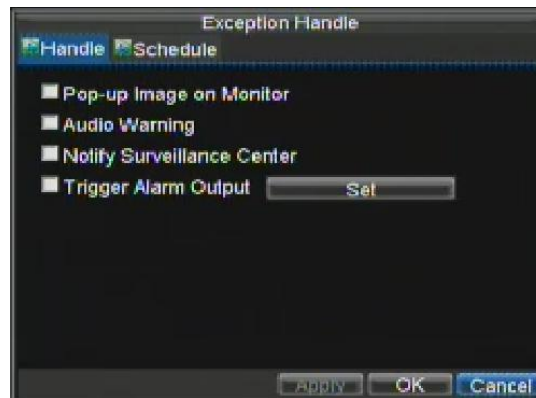

Figure 12. Exception Handle Menu
5. Click the Handle button to enter the Exception Handle menu, shown in Figure 12.